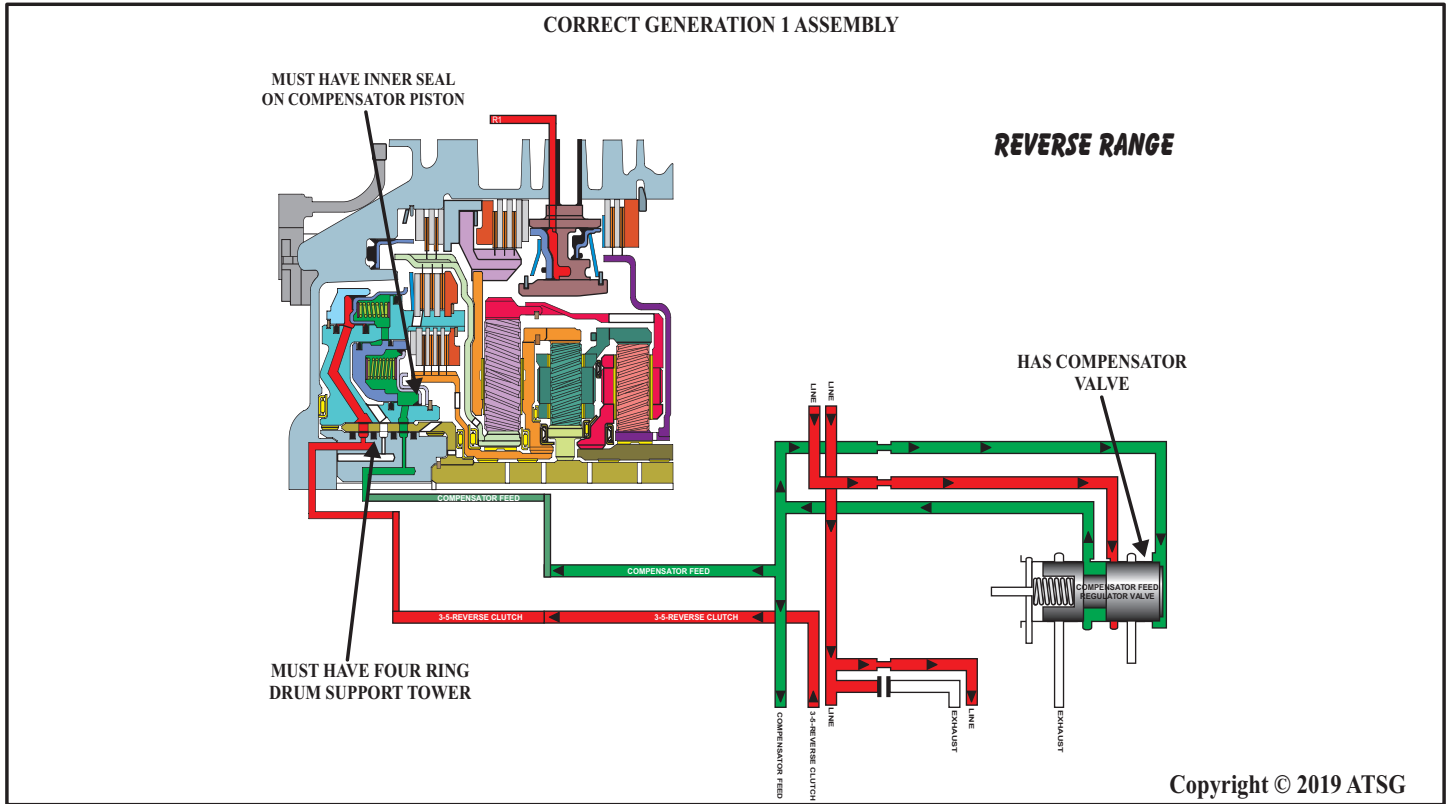

Figure 4
The Generation II compensator piston seen in figure 2 has only an outer lip seal. This requires a three (3) ring support tower. In a Generation II transmission there is no compensator circuit, it uses a backfill circuit instead. This is why the Generation 1 transmission had the delay due to compensator oil leaking past the inner diameter of the compensator piston as shown in figure 3. In addition, loss of oil past the compensator piston causes a lack of sufficient pressure to fully stroke the compensator valve which allows line pressure to leak past the missing seal and ring as seen in the hydraulic in figure 4. The compensator oil leak was significant enough to lower line pressure to the point where it affected overall transmission performance.
Correct 3-5-Reverse Clutch Application - Generation 1 - Figure 4